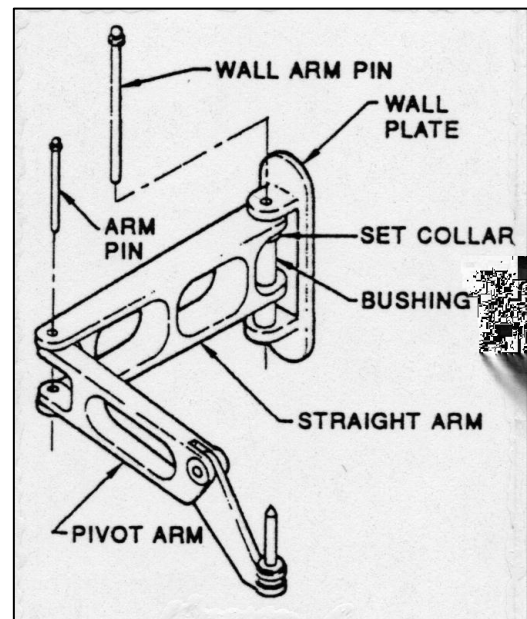

Figure 1
brackets on the wall plate and pass the wall pin through hinge brackets and bushing (See Figure 1).
6. The pivot arm is connected to the straight arm by passing the arm pin through both arm sections, with the legs of the pivot arm between the legs of the straight arm (See Figure 1).